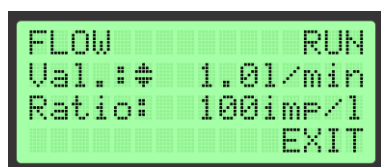
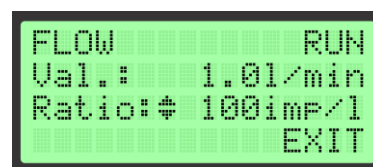

Figure 66 Changing Flow Rate Value
Figure 67 Changing Flow Ratio
The user can navigate through this submenu by using Up (▲) and Down (▼). By pointing to the submenu item and by pressing Enter (E) the following parameter can be selected: Flow Rate value (See Figure 66) or Flow Ratio (See Figure 67).